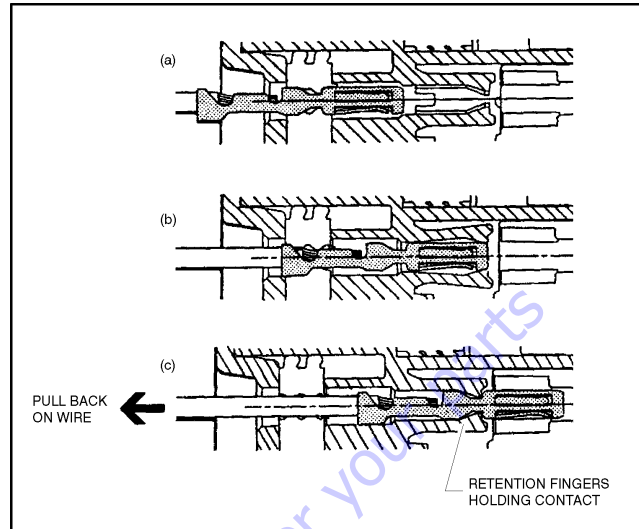

Figure 7-11. Connector Assembly (2 of 4)
1. To insert a contact, push it straight into the appropriate circuit cavity as far as it will go (See Figure 7-11. Connector Assembly (2 of 4)).
2. Pull back on the contact wire with a force of 1 or 2 lbs. to be sure the retention fingers are holding the contact (See Figure 7-11. Connector Assembly (2 of 4)).